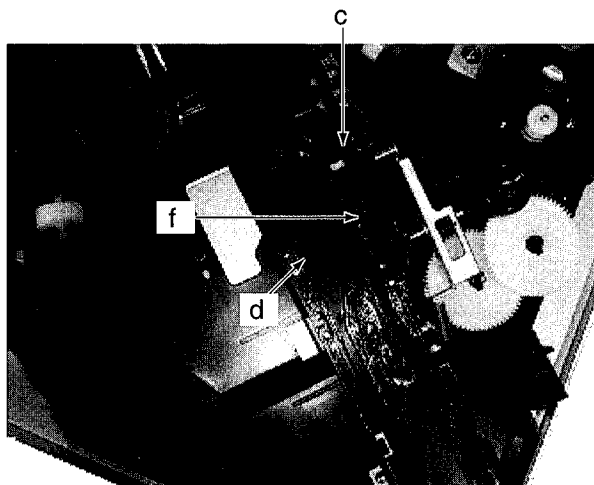
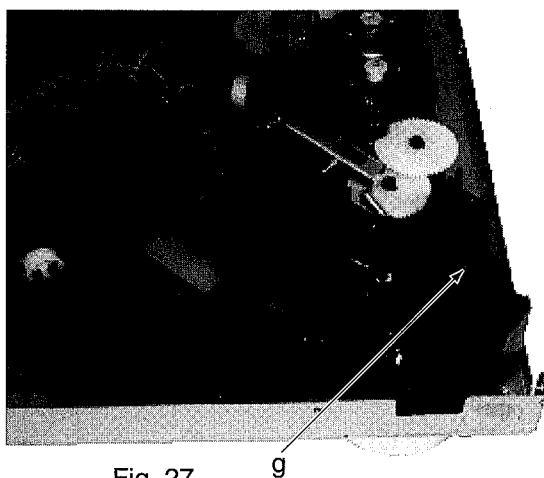

Fig 25
Fig 27
1) Let the arrow marked face in Figure 25 under mechanical bases "c" and "d" and then the rib of mechanical base "f" in the groove of mechanical base "e". then slide it to the rectangular window mechanical base "g" according to Figure 27.